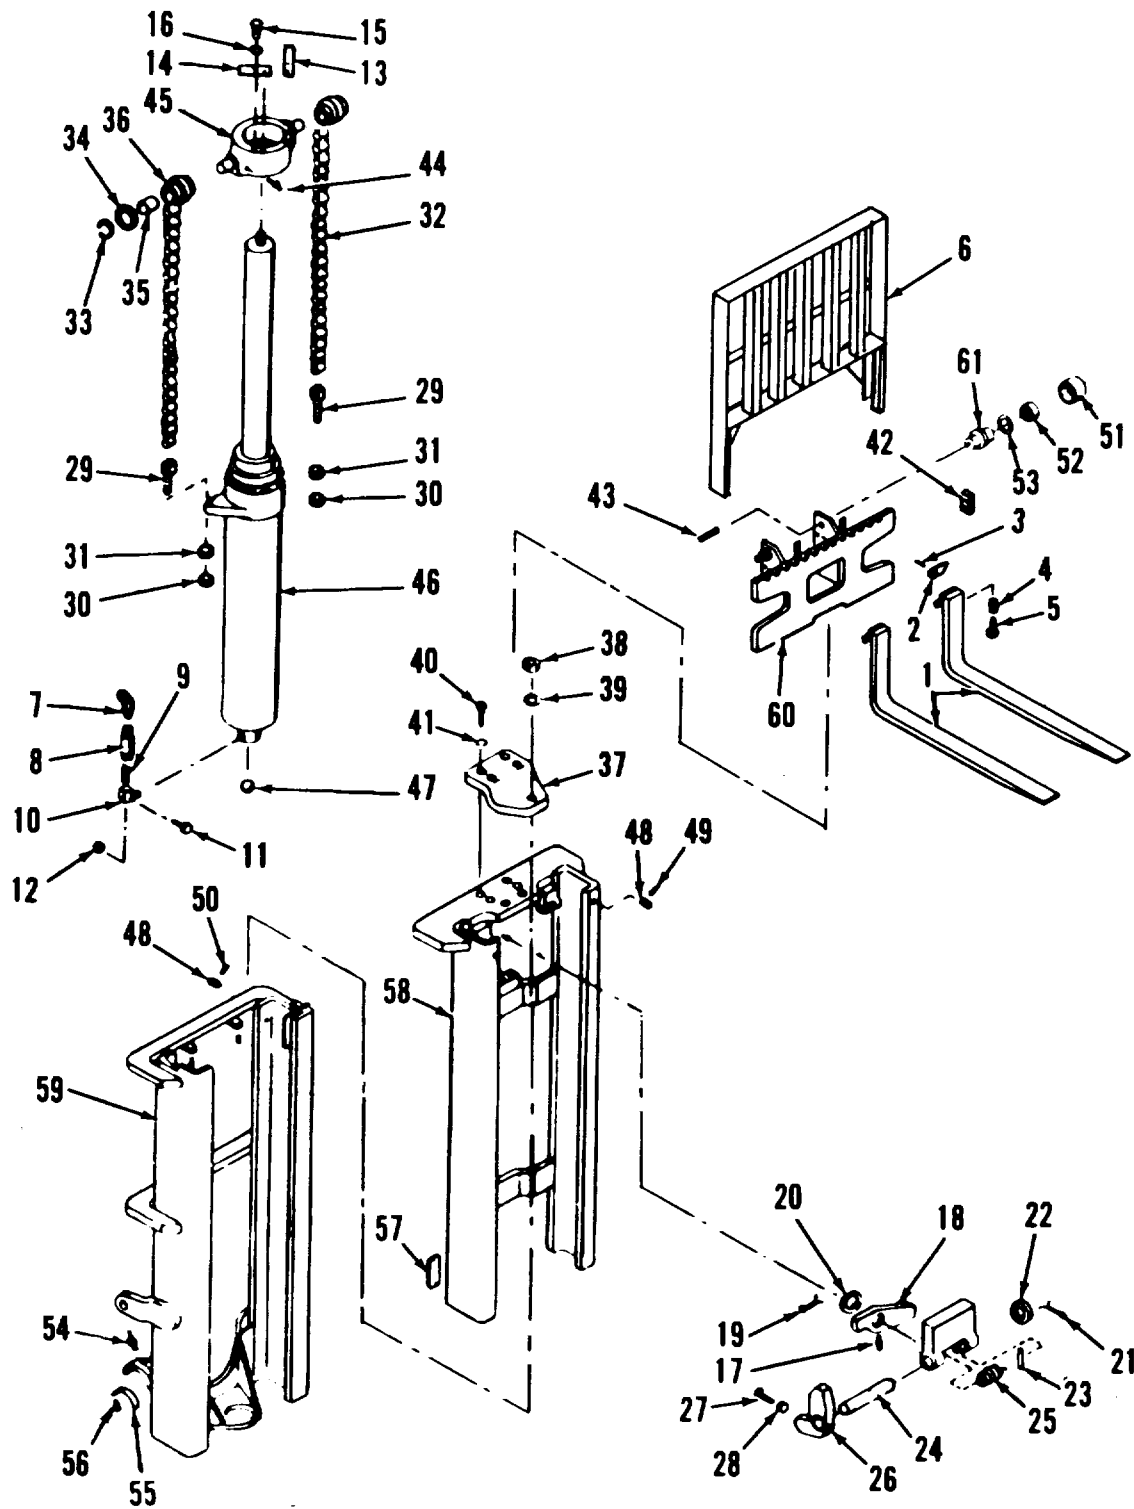

Figure 7-23. Uprights, Backrest, Fork and Carriage Assembly
**Key to figure 7-23**
**Key to figure 7-23 (cont)**